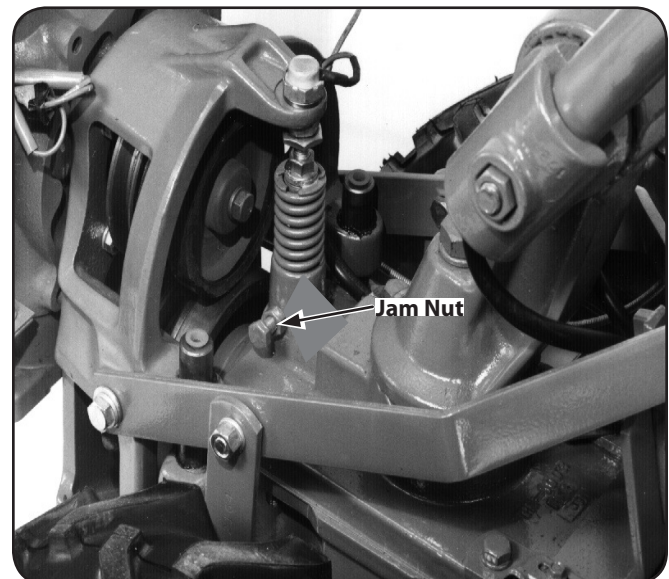

Figure 6-2
- The jam nut is located on the left side of the neutral plunger. If loose, immobilize bolt head with one wrench and use another wrench to tighten the nut. See Figure 6-2.